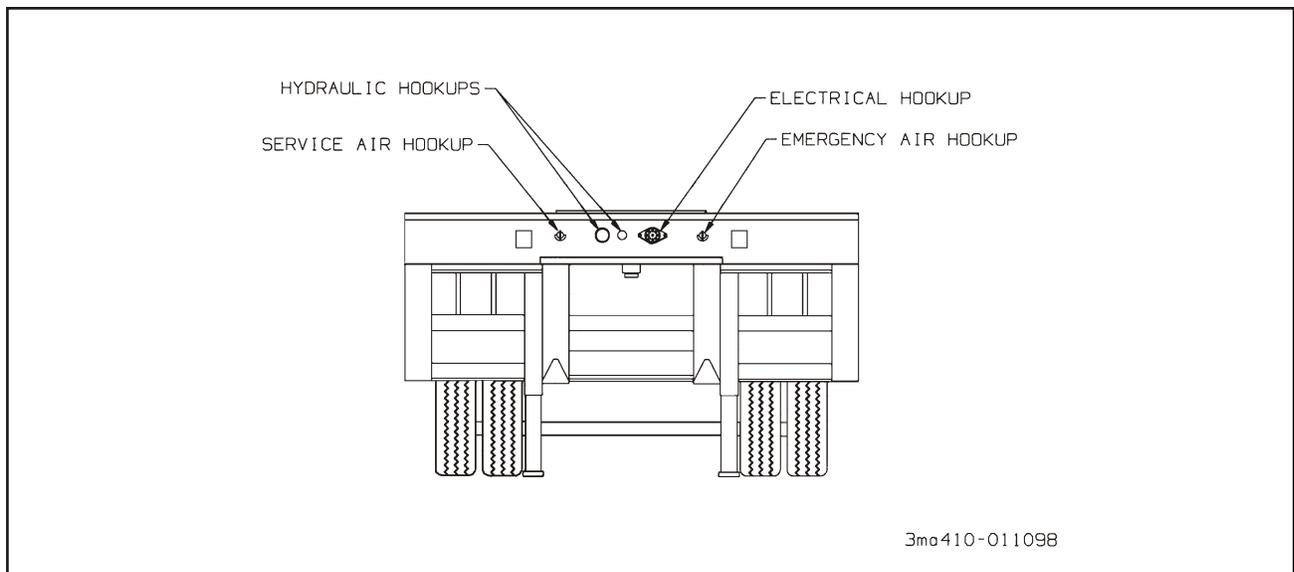

FIGURE 3-5 REMOTE CONTROL SWITCH PANEL
- 3-8.3** Connect the service and emergency air hoses of the towing vehicle to their respective gladhand on the front of the semitrailer; red emergency line to the gladhand with the "**EMERGENCY**" tag, and the blue service line to the gladhand with the "**SERVICE**" tag (See Figure 3-5). Chock the semitrailer wheels before activating the semitrailer air supply valve in the towing vehicle. Set the parking brakes.
- 3-10.1** Connect the towing vehicle 7-pole electrical plug to the electrical receptacle on the front of the semitrailer (See Figure 3-5).